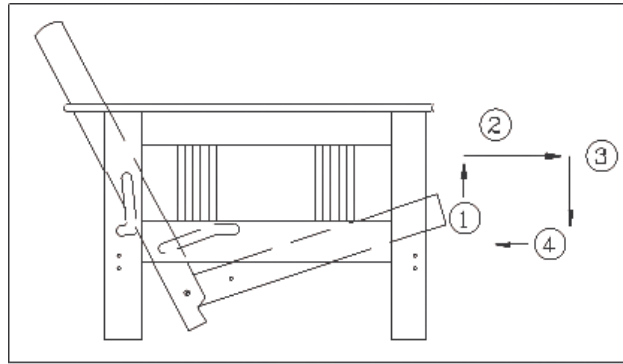

Figure 1
- 1) While standing in front of sofa-bed convertible, grasp front seat rail. Lift seat high enough to clear plastic stops (Figure 1).
- 3) Set the seat section down (Figure 1).
- 4) Push the seat section backwards about an inch so that it locks into bed position (Figure 1).
- 2) Lift the backrest upward until the plastic stops on the bottom of the seat are pulled within the framework to the inside of the front cross rail (Figure 1).